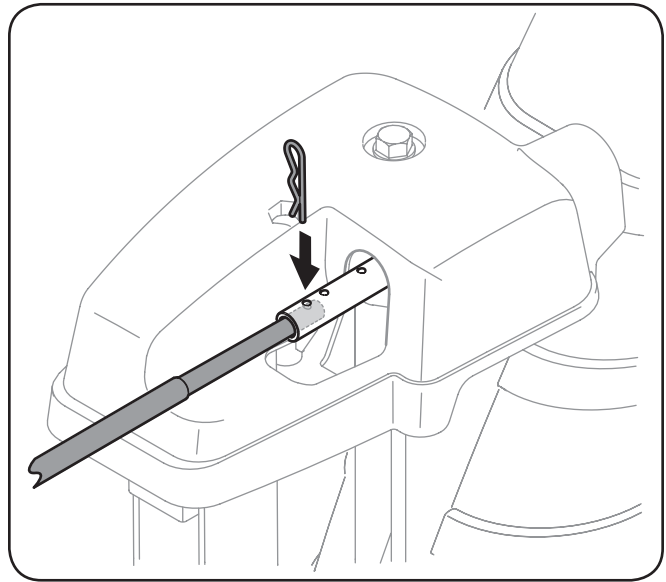

Figure 6-8
2. Pull out the chute control rod until the hole in it lines up with the hole furthest from the chute assembly on the chute rotation assembly. See Figure 6-8.
3. Reinsert the cotter pin through this hole and the chute control rod. See Figure 6-8.